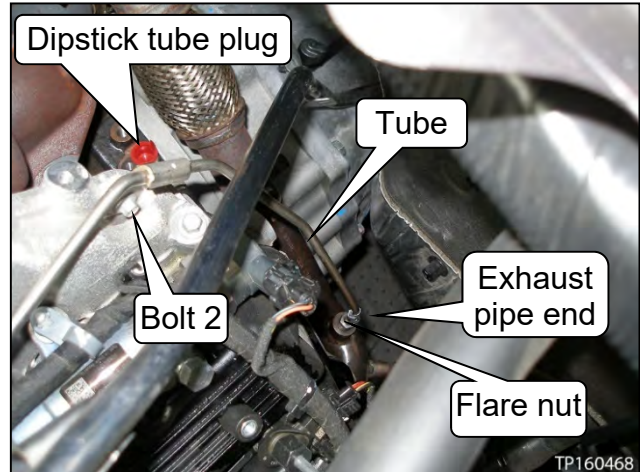
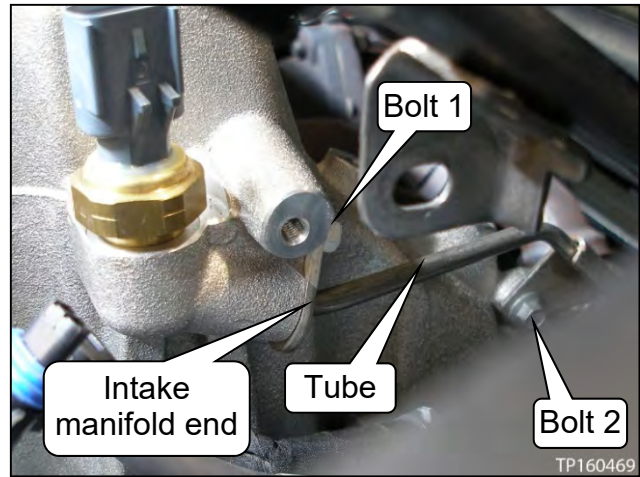

Figure 95
Figure 96
36. Install the exhaust pressure sensor tube (see Figure 95 and Figure 96).